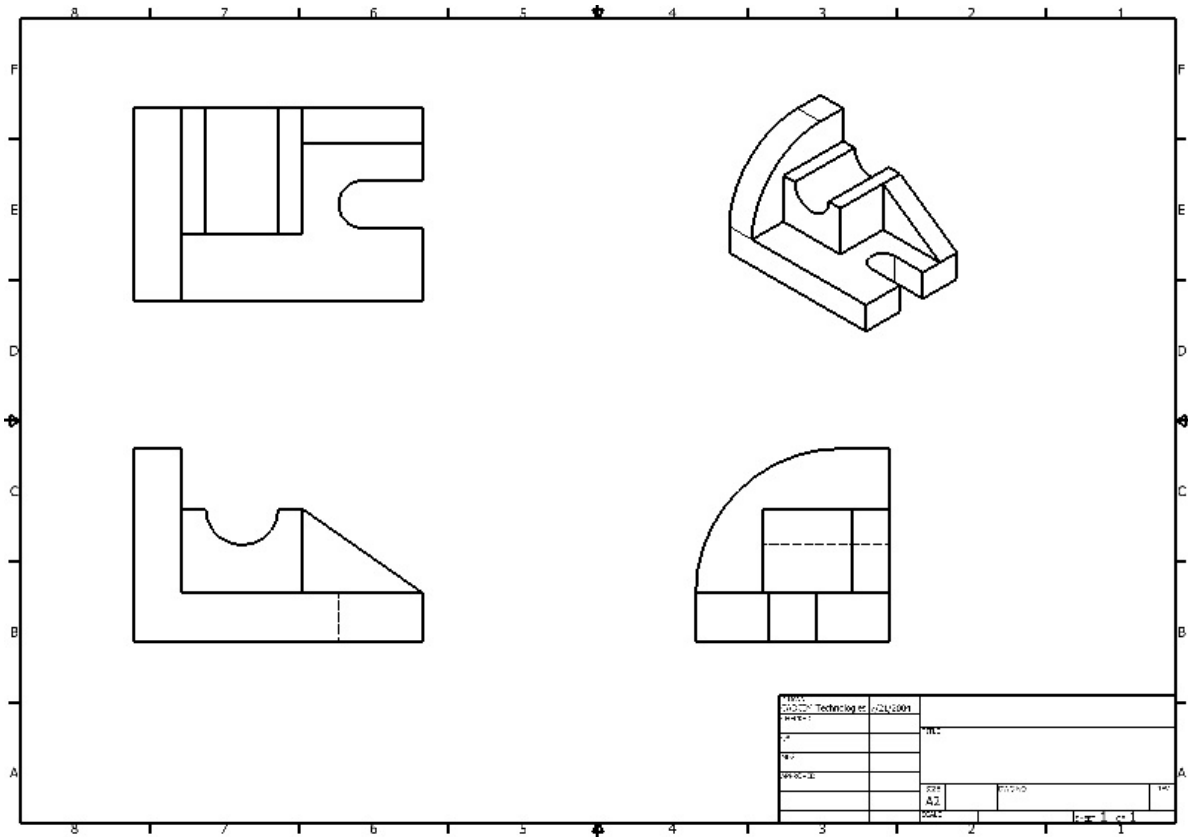

Figure 12-22 Drawing sheet after generating the drawing views
2. Taking the front view as the parent view, generate the right-side view and the isometric view. Modify the scale of the isometric view to 1, see Figure 12-22.